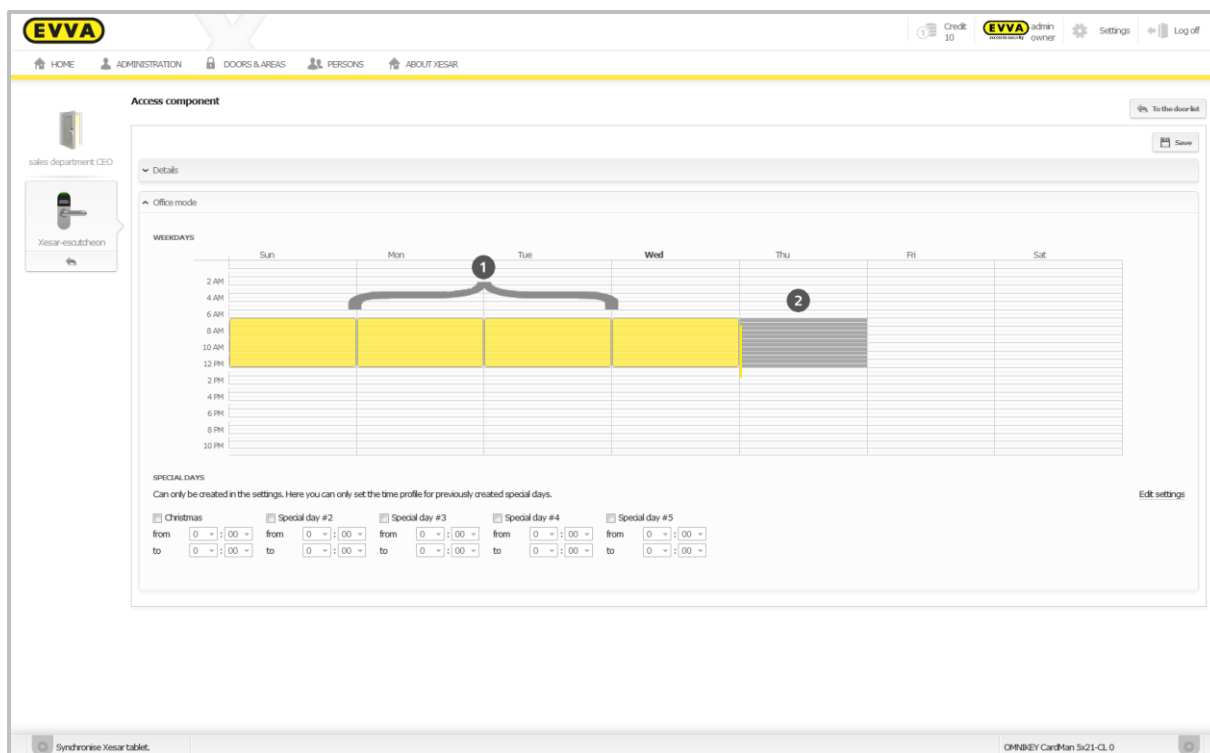

Figure 95: Specifying the office mode period
- Click **Office mode** to open the screen in which you define the individual office mode times ❶ (Figure 95: Specifying the office mode period) for Xesar access components.
- Press and hold the mouse button ❷ (Figure 95: Specifying the office mode period) over the period for the desired weekdays